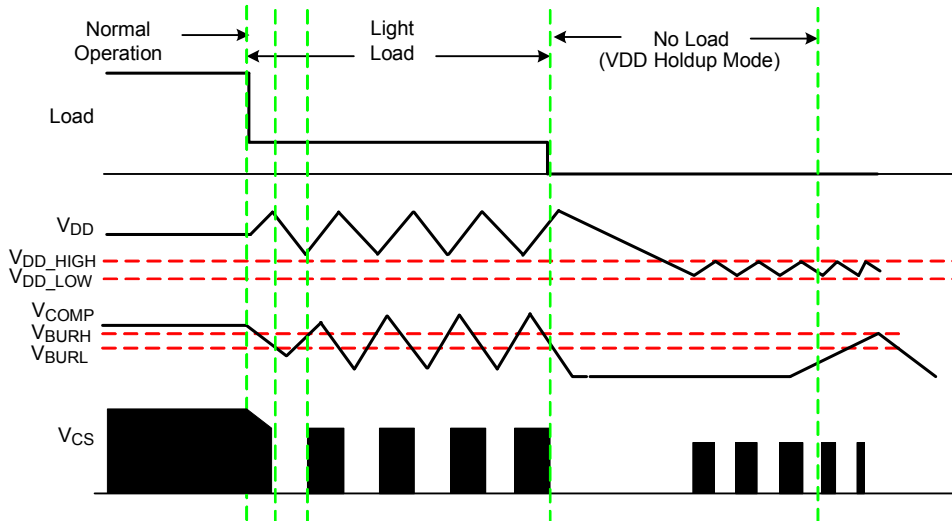

Figure 1. Burst Triple-Mode
To fulfill green mode requirement, there are 3 operation modes in R7914. Please refer to Figure 1 for details.
- **Burst Mode** : During light load, switching loss will dominate the power efficiency calculation. This mode is to cut switching loss. As shown in Figure 1, when the output load gets light, feedback signal drops and touches  $V_{BURL}$ . Clock signal will be blanked and system ceases to switching. After  $V_{OUT}$  drops and feedback signal goes back to  $V_{BURH}$ , switching will be resumed. Burst mode so far is widely used in low power application because it's simple, reliable and will not have any patent infringement issue.